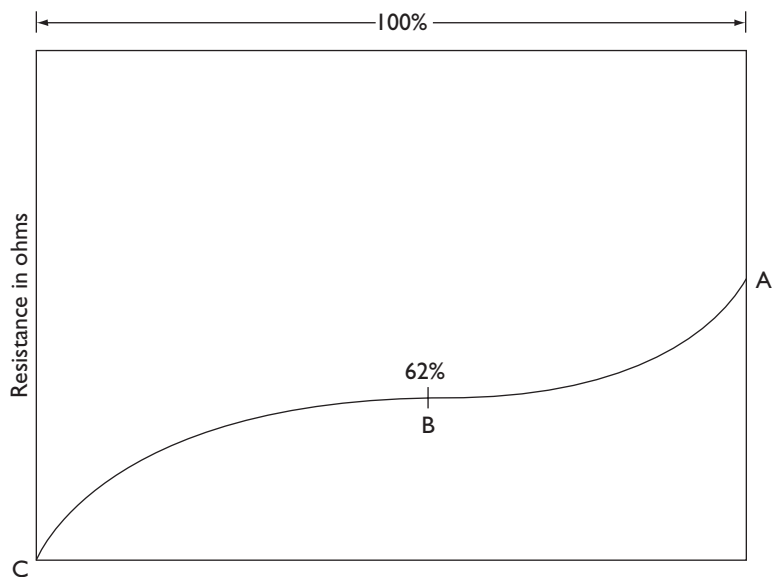

Figure 15-2 Distance of B from C measured electrode.
15-13 Why is the middle electrode (B) in Figure 15-2 set at 62 percent of the distance from A to C?
Referring to Figure 15-2, you will see that the knee of the resistance curve is at approximately 62 percent, and this point gives us the most accurate reading.